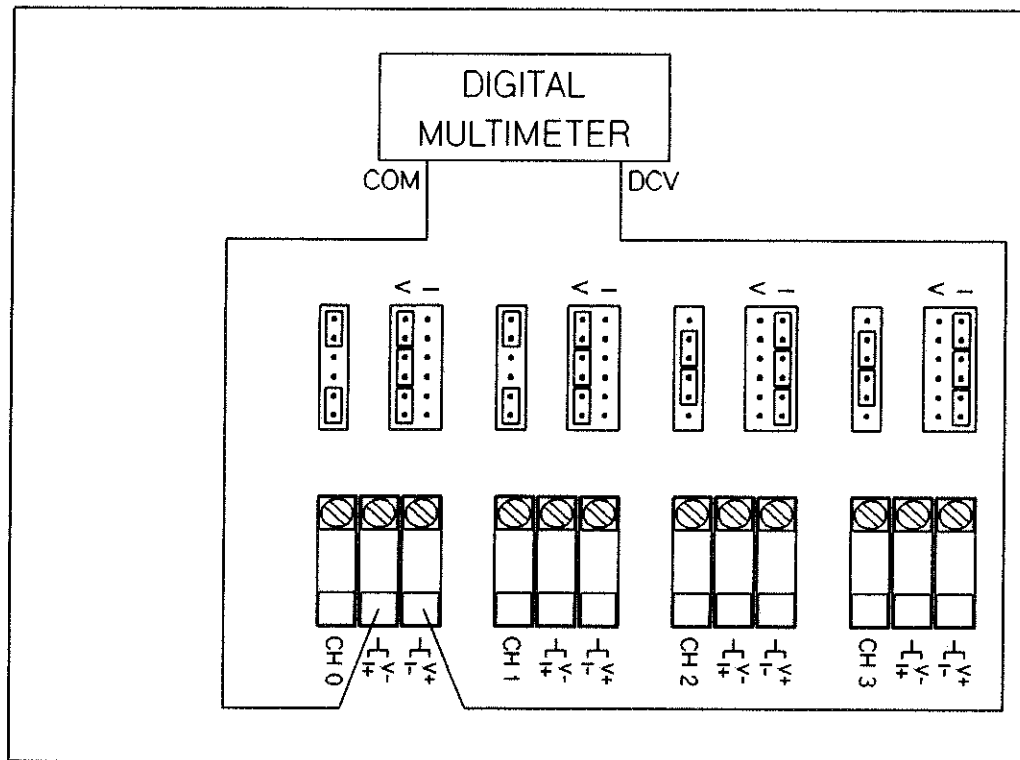

Figure 15-7 HP 44727A/B/C Voltage Channel Test
3. Set the multimeter to measure dc volts. On the test fixture, connect the multimeter DCV input to the V+ connection and connect the COM input to the V- connection of the channel to be tested. The connections are shown in Figure 15-7.